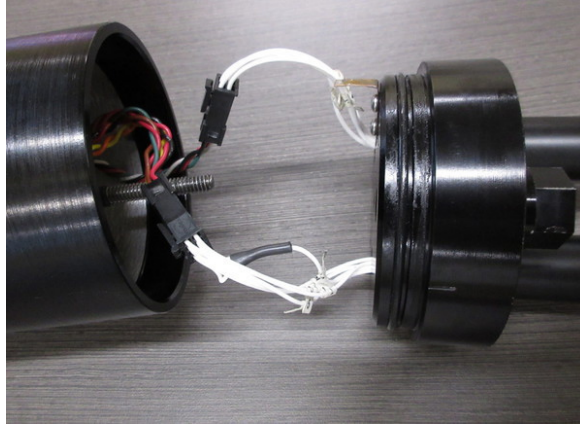

Figure 17: Disconnecting the rear bulkhead connections
4. Gently disconnect the Molex connectors on the wiring harnesses between the rear bulkhead and the internal electronics (Figure 17).